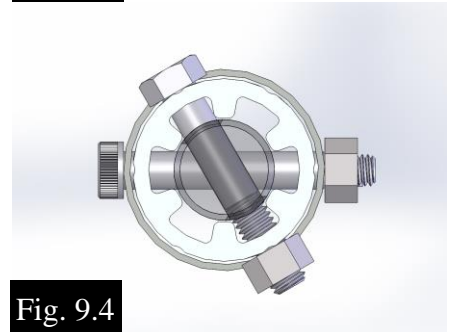

Fig. 9.4
4. Once in place, drill a 3/8" hole 3" from the edge through the roll tube and axle adapter, use the grooves in the axle adapter as a guide, see figure 9.4.